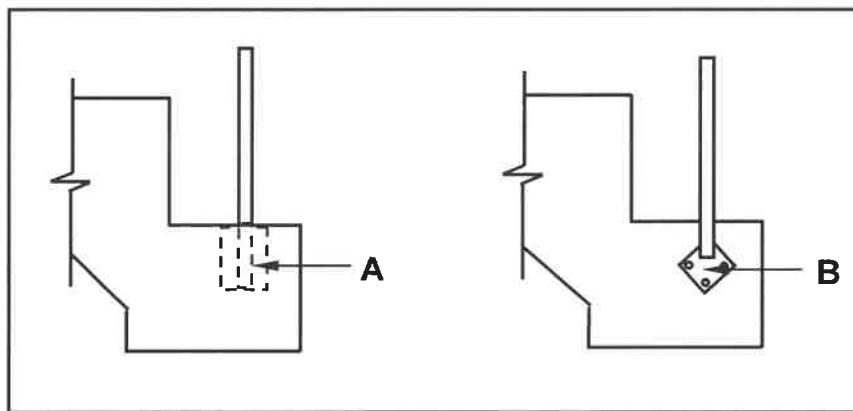

FIGURE 3.4
- 3.4 FIGURE 3.4 below shows TWO different methods used to mount balusters to staircases. Identify methods A and B. (2)